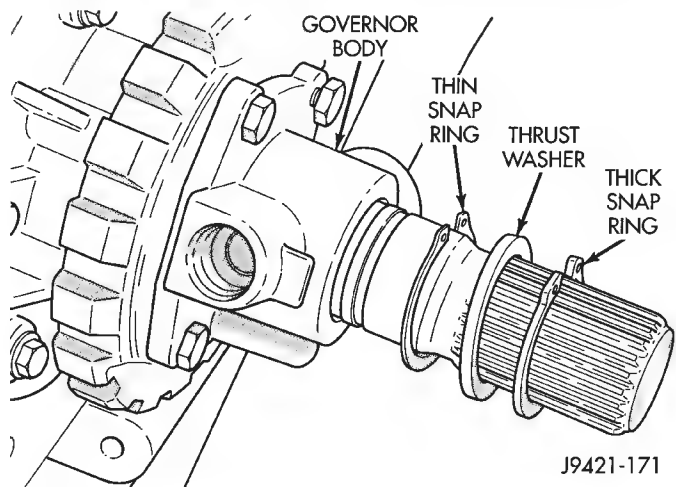

Fig. 19 Governor Body/Park Gear Attachment
(28) Remove E-dip from one end of governor valve shaft and remove valve and shaft from governor body (Fig. 19). Reinstall E-dip on shaft to avoid losing it.
(29) Remove thick snap, thrust washer and thin snap ring that retain governor body and park gear on shaft (Fig. 19).